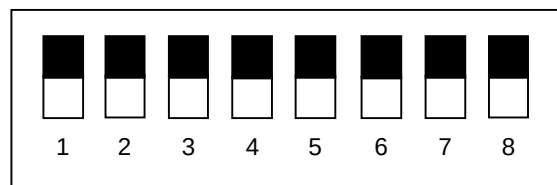

Figure 6.4.2 DIP switches (Being set for Standard setting)
- (2) Perform as the procedure shown below.
- (3) Set the DIP switch No.4 as shown in Figure 6.4.2.